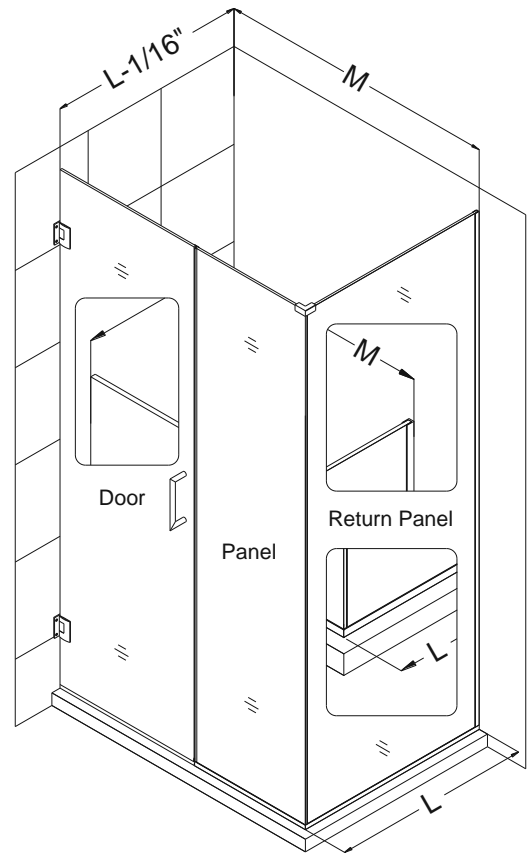

Fig. 1
**NOTE:** M and L dimensions are from the finished wall to the outside of the U-channel as shown in Fig. 1.